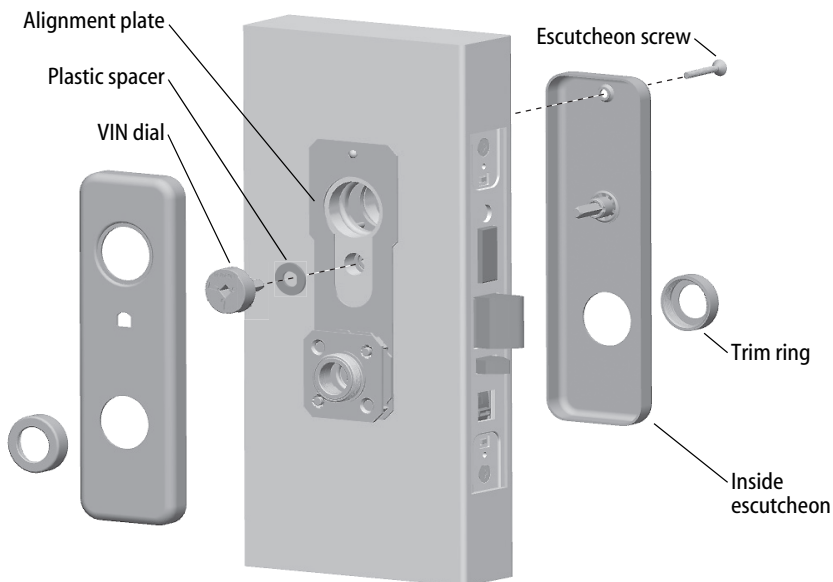

Figure 11b Installing the J trim escutcheons
- 1 For J trim, position the J alignment plate (Figure 11b) on the outside of the door.
For J trim (Figure 11b)